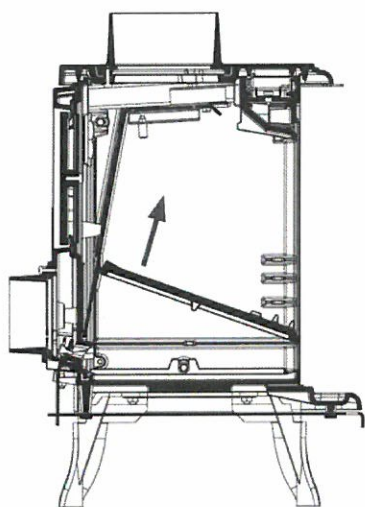

Figure 6c
- 4) See figure 6c. Lift the rear of the grate upwards into a vertical position. It can then be angled to withdraw from the stove. A screw driver may be required to help lift the rear.